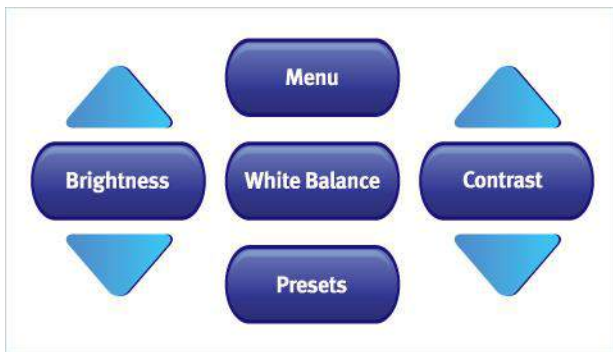

FIGURE 4-2: MAIN SCREEN
1. In the Main Screen (Figure 4-2), press the up and down arrows around the Brightness button to raise or lower the brightness of the video.